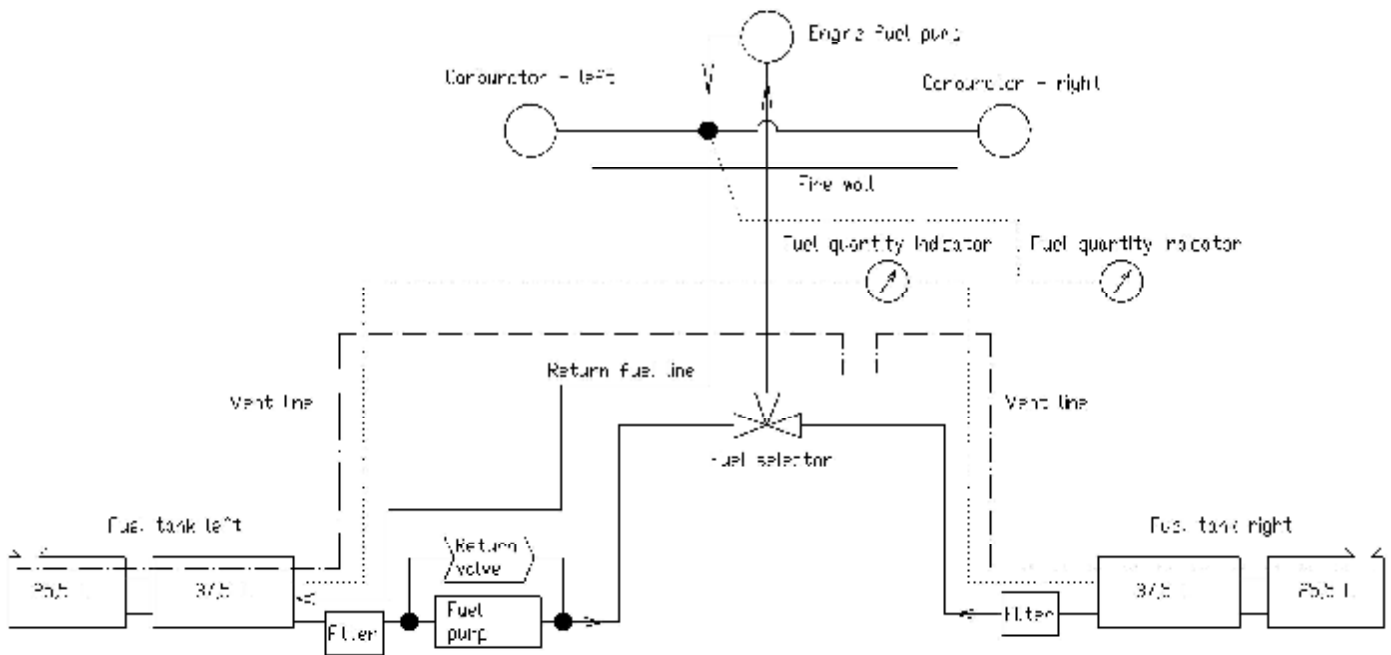

Fig. 14 The fuel system scheme
On the drawing is not fuel filter (1) shown because there is the fuel filter with draincock installed instead. (see fuel system scheme fig. 14. page 7-13)
The integral fuel tanks are located in the forward box of the wing central panel. The fuel system scheme is shown at fig.14.